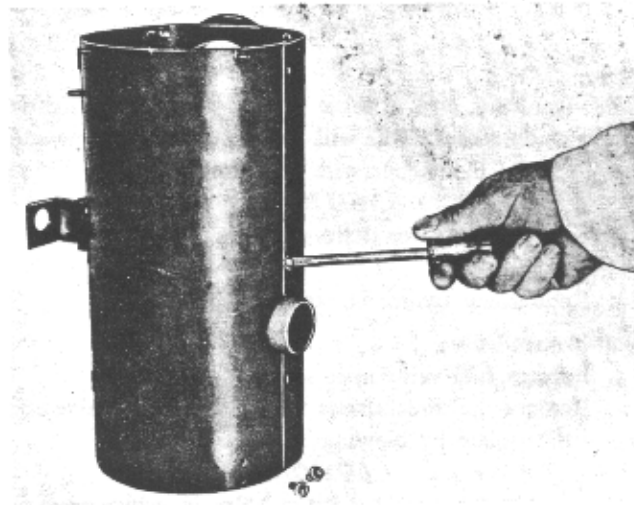

Figure 47
2. Remove three screws on exhaust side of heater case (Figure 47).